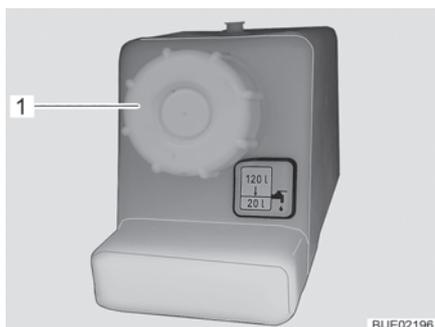

Fig. 189 Cap for the drinking water filler neck
- Turn the cap (Fig. 189,1) anticlockwise and remove.